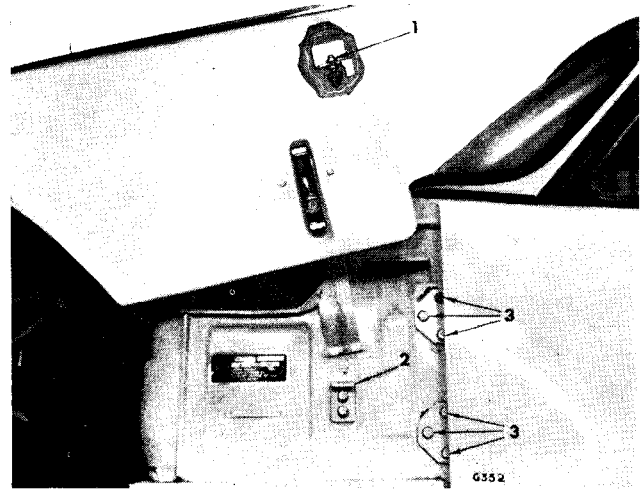

Fig. 12. Bonnet height adjustment
Remove the bonnet catch brackets (2) (Fig. 12) and fit the lifting brackets to the body.
Height Adjustment, Rear (Fig. 12)